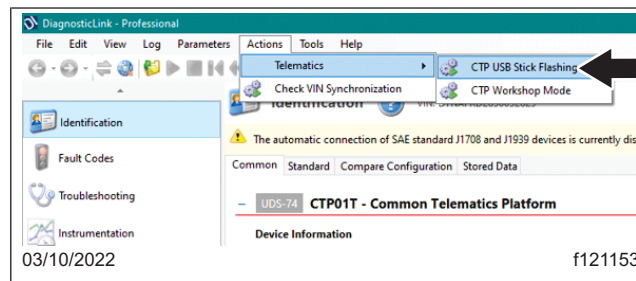

Fig. 8, Opening CTP USB Stick Flashing Window
10. Go to 'Action,' 'Telematics,' then select 'CTP USB Stick Flashing.' See Fig. 8.